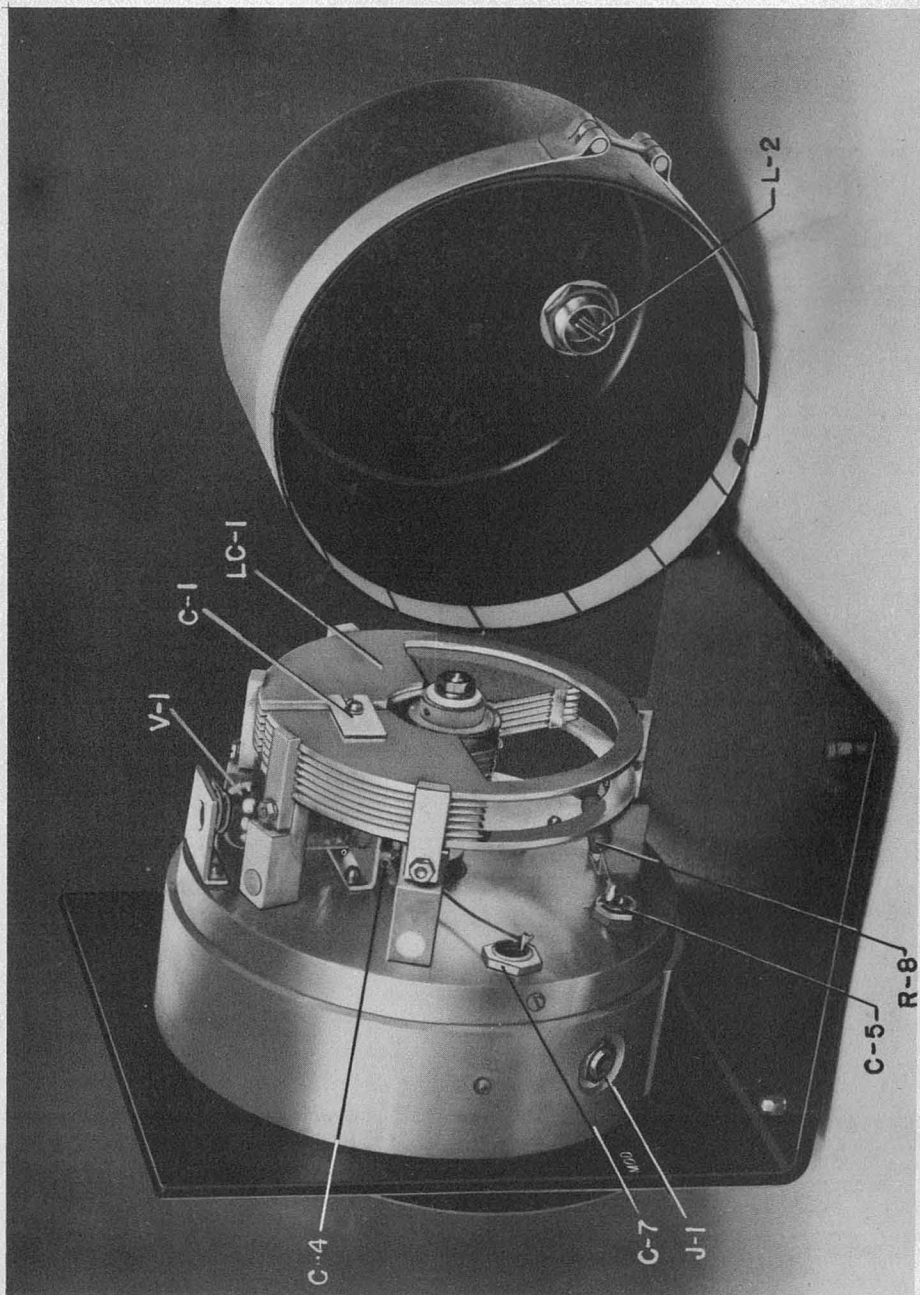

Figure 8. Type 1215-B Unit Oscillator, Cover Removed
4.2 FREQUENCY CALIBRATION. Tube replacement will generally cause less than a 0.5-percent change in frequency. If a source of standardizing frequencies is available, the trimmer capacitor (a small, slotted rectangular plate; C1, Figure 8) can be readjusted for correct calibration at the 250-Mc end of the range. The shield cover must be in place when the frequency is measured.